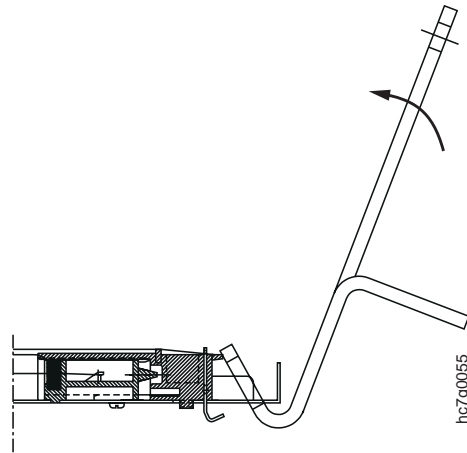

Figure 270. Pivoting the Grid Removal Tool
- b. Pivot the tool upwards to release the spring tension, as shown in Figure 270 on page 297.